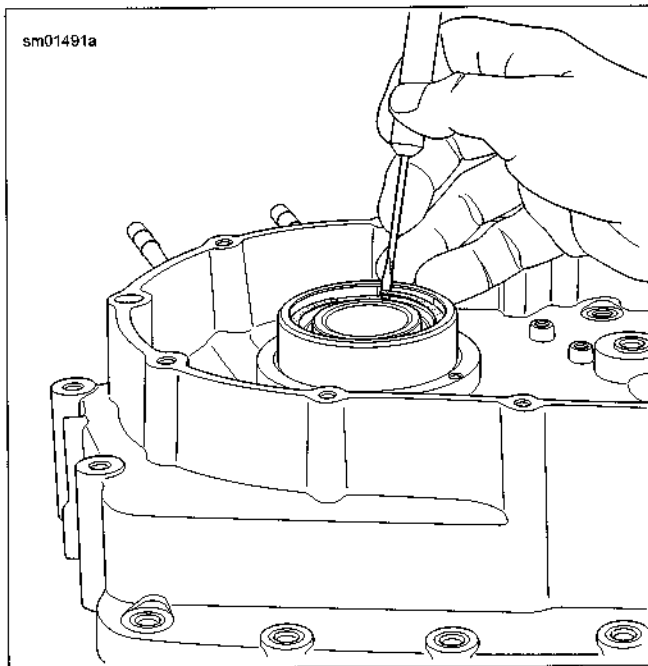

Figure 3-93. Removing Left Main Oil Seal Retaining Ring
3. See Figure 3-93. Remove outer left main bearing retaining ring.